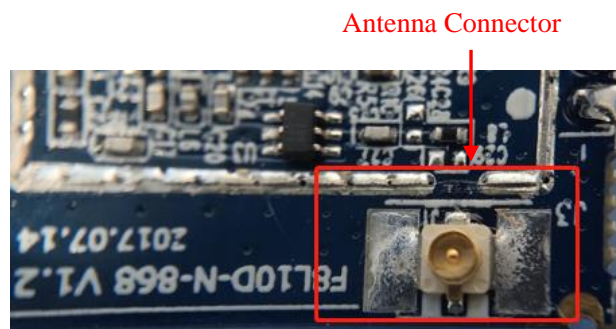

Figure 2-2 Antenna Connector
1) The Antenna connector part number: 20279-001E-03/IPEX, as the Figure 2-2: